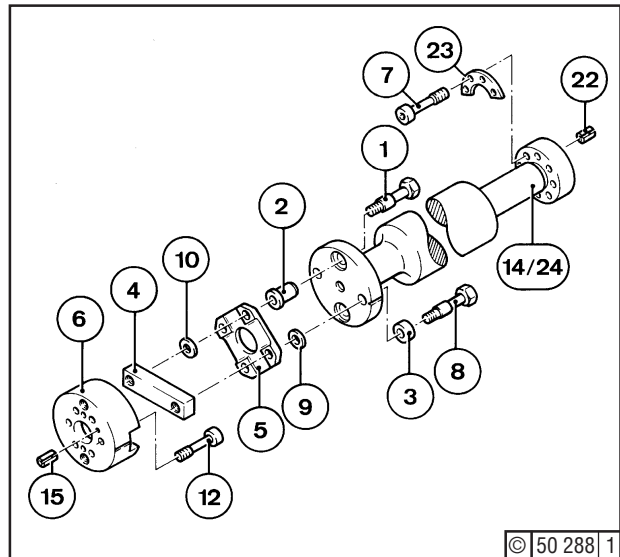
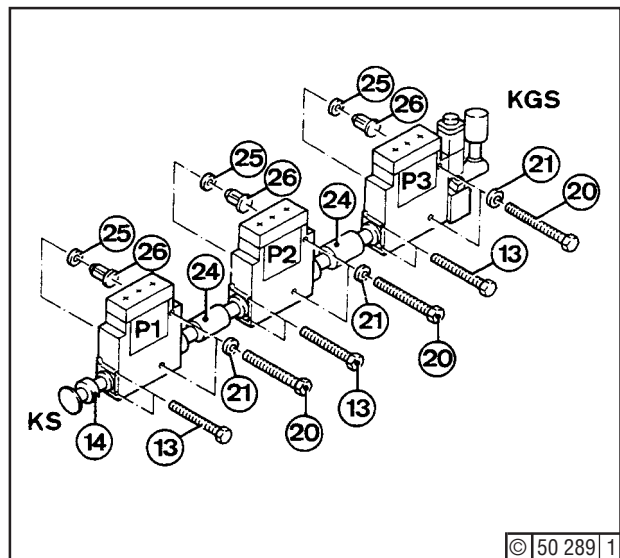
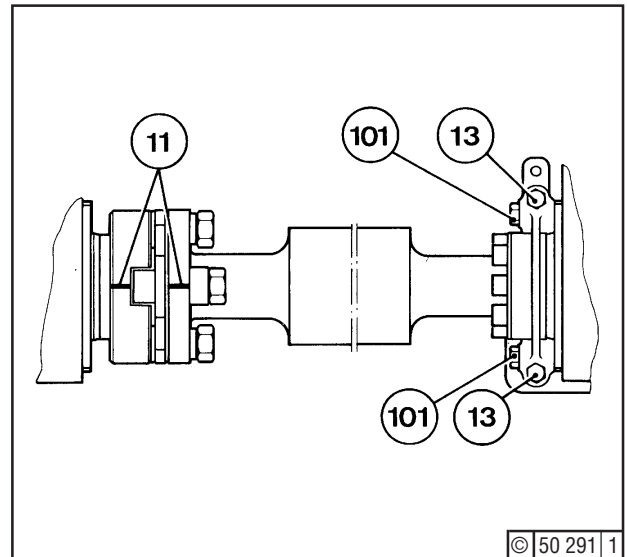
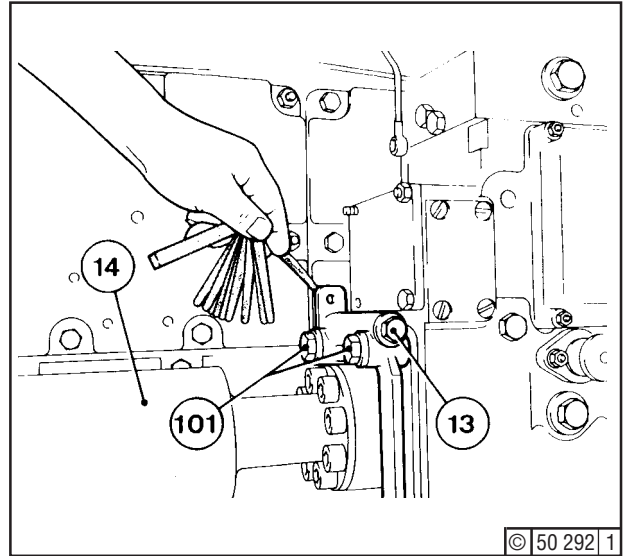

Fig. 2
Fig. 3
Fig. 5
Fig. 9
Removing pumps P1, P2, or P3 - fig. 3 -
- Unscrew the 4 fitted bolts (1) and (8) - Fig. 2.
- Retain injection pump - Fig. 3 - with hoist. Unscrew hex. bolts (13) and (20) and take out washers (21). Lift off pump from engine and place down carefully. When lifting off pump, pay attention to spacers (25) and parallel pin - between crankcase cover and injection pump. The spacers may be adhered or fastened with countersunk nails.
- Make sure that only genuine DEUTZ gaskets are fitted under crankcase covers - behind injection pumps - and spacers (25) - Fig. 3 - otherwise alignment errors may result.
- Fit shaft (14) - Fig. 2 - by locating it with dowel pin (22) and screw together with washers (23) and cheese head bolts (7) until hand-tight. If the injection pump retainer had been taken off, it should be suspended loosely above the shaft. If not, loosen the four hex. bolts (101) - Fig. 5 - before refitting the pump.
- Insert bushes (2) - Fig. 2 - into shaft (14) and thread fitted bolts (8) provided with bushes (3) through shaft (14). Connect washers (9), coupling disc (5) - recessed side facing towards drive end - and connecting plate (4) with fitted bolts and screw together until hand-tight.
- Make sure that spacers (25) are fitted - Fig. 3. Place injection pump with shaft onto parallel pin in crankcase cover and observe marks (11) - Fig. 5 -. Secure hex. bolts (20) provided with washers (21) hand-tight so that the injection pump rests against the crankcase without any clearance.
- ☞ If space is limited, it is also possible to screw shaft (14) together with the injection pump only when this is already loosely attached to the crankcase.
- Turn shaft (14) - Fig. 9 - by hand at least one full revolution and check for easy movement.
- Lock down hex. bolts (13) - Fig. 9 - until hand-tight.
- Lock down hex. bolts (101) until hand-tight.
- Tighten hex. bolts (13).
- Tighten hex. bolts (101) crosswise.
- Tighten hex. bolts (20) - Fig. 3 - as specified (Section 3.5, line 13).
Should one of these checks reveal any inadmissible discrepancy, the injection pump retainer and the pump have to be slackened by loosening the hex. bolts (13) and (101) - Fig. 5, as well as (20) - Fig. 3.